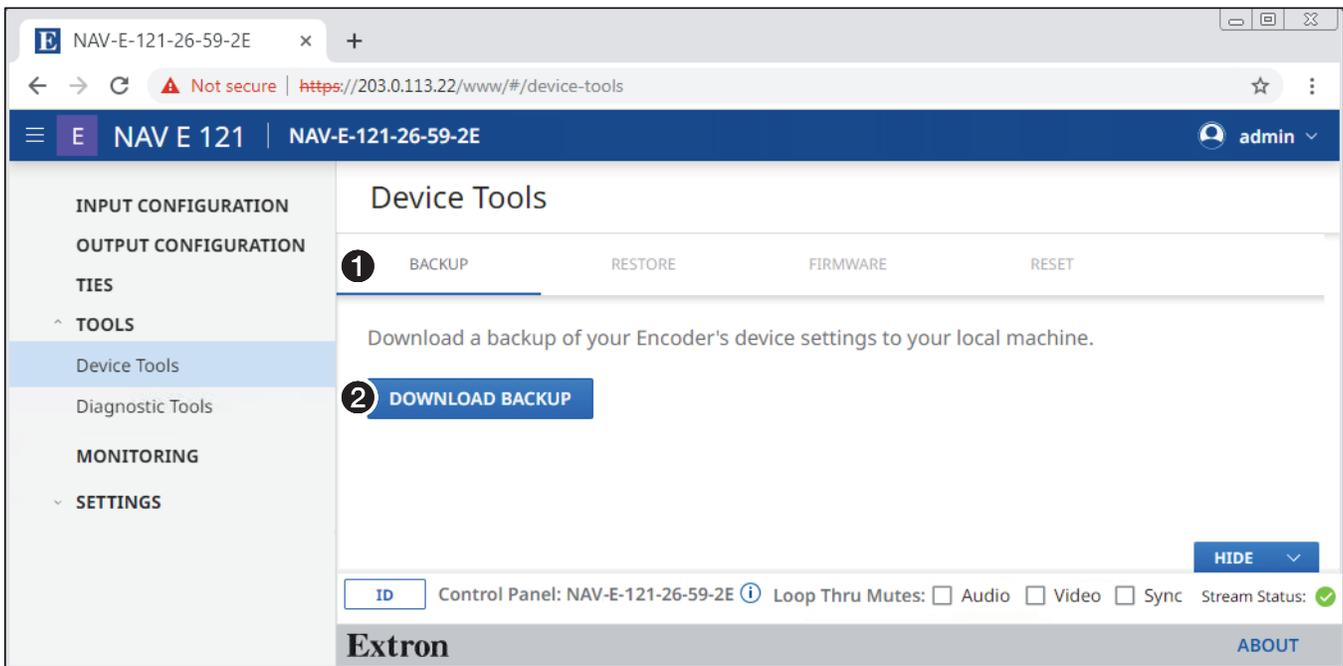

Figure 20. Device Tools Page
The Tools pages provide tools for the encoder (Device Tools) and tools for diagnosing communications (Diagnostic Tools). To access the Settings pages, if necessary, click the Menu link (see figure 11, ① on page 17). Click **TOOLS** (see ① at right) and either **Device Tools** (②) or **Diagnostic Tools** (③). The browser displays the selected Tools page (see figure 20, which shows the Device Tools page selected).
The Device Tools page consists of four tabs (see figure 20, ①): **BACKUP** (see BACKUP tab on page 27) **RESTORE** (see RESTORE tab on page 28), **FIRMWARE** (see FIRMWARE tab on page 30) and **RESET** (see RESET tab on page 31) that provide encoder tools.
1. On the Device Tools page, click **BACKUP** (see **figure 20, 1** on page 26).
2. Click **DOWNLOAD BACKUP (2)**.